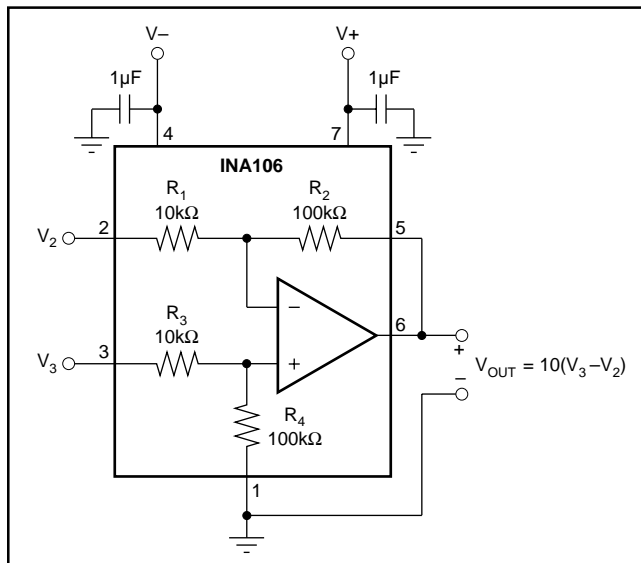

FIGURE 1. Basic Power Supply and Signal Connections.
NOTES: (1) Connected as difference amplifier (see Figure 1). (2) Nonlinearity is the maximum peak deviation from the best-fit straight line as a percent of full-scale peak-to-peak output. (3) With zero source impedance (see "Maintaining CMR" section). (4) Includes effects of amplifiers's input bias and offset currents. (5) Includes effect of amplifier's input current noise and thermal noise contribution of resistor network.
Figure 1 shows the basic connections required for operation of the INA106. Power supply bypass capacitors should be connected close to the device pins as shown.
Referring to Figure 1, the CMR depends upon the match of the internal R_4/R_3 ratio to the R_1/R_2 ratio. A CMR of 106dB requires resistor matching of 0.005%. To maintain high CMR over temperature, the resistor TCR tracking must be better than $2\text{ppm}/^\circ\text{C}$. These accuracies are difficult and expensive to reliably achieve with discrete components.